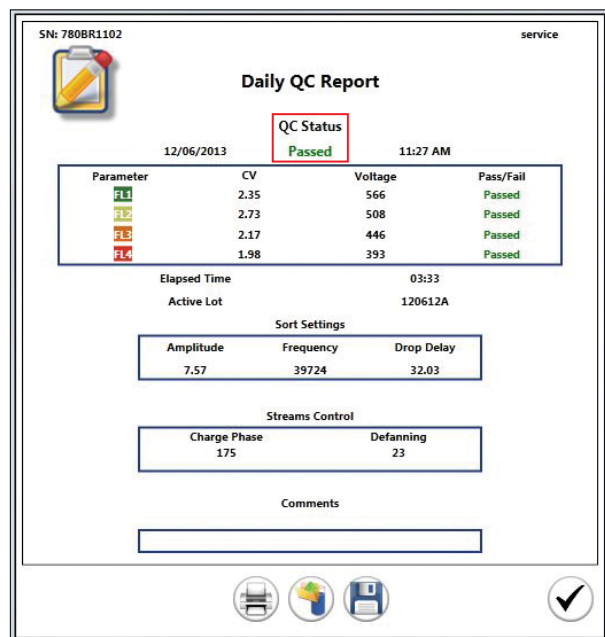

Fig. 4. Daily QC Report with passing QC Status.
6. The Daily QC Report will appear with a passed/failed QC Status (Figure 4).